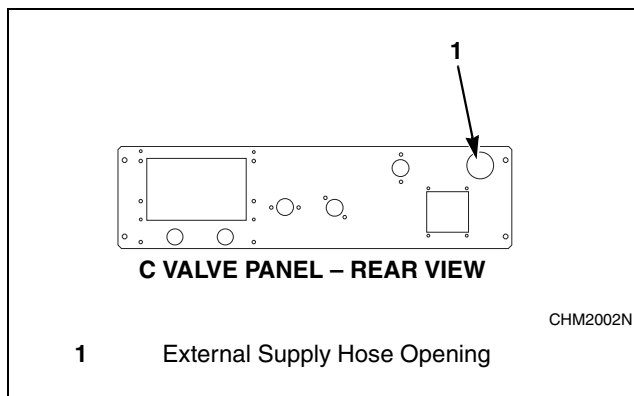

Figure 31
1. Facing the rear of the machine, locate the 1-1/2 inch (38 mm) opening found at the upper right-hand side of the valve panel. Refer to *Figure 31*.